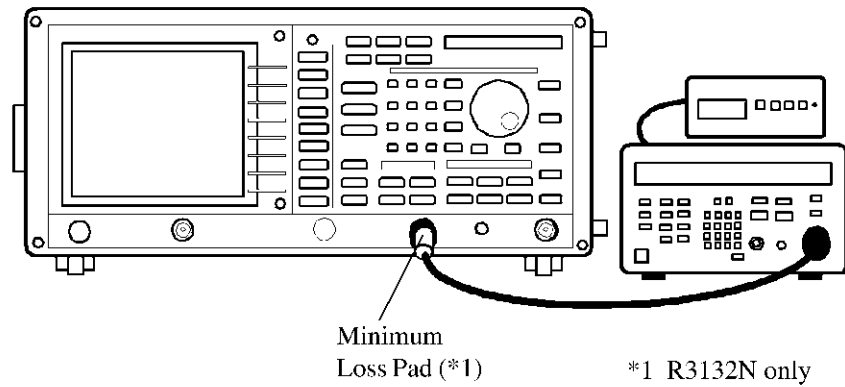

Figure 5-1 Setup of Frequency Reference Source Accuracy Test
1. Connect the frequency counter and the frequency standard as shown in Figure 5-1.